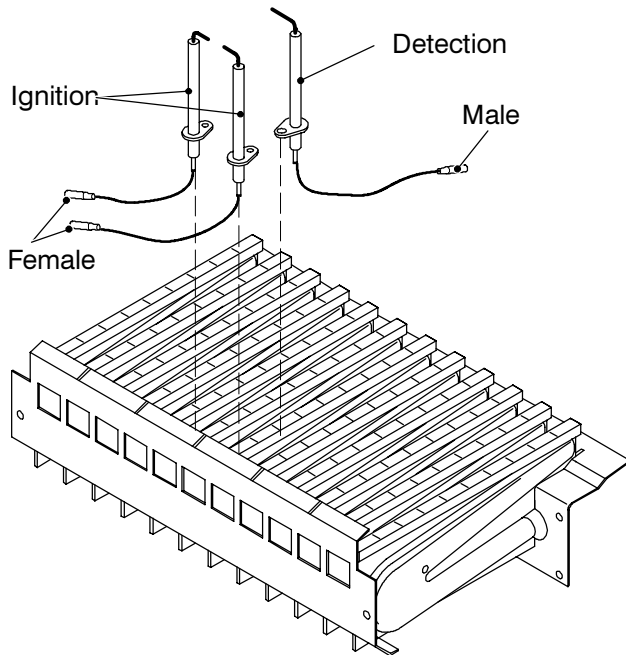

Fig. 75
- 6 Assemble the electrodes carrying out the removal operation in reverse order. Refer to Fig. 75 in order to recognise the electrodes and to correctly connect the wiring.